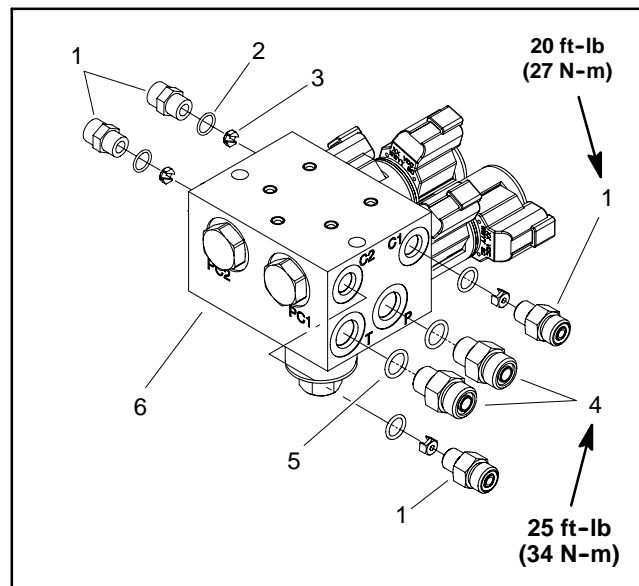

Figure 72
11. If necessary, remove fittings and flow control orifices from control manifold and discard O-rings (Fig. 72).
1. If fittings were removed from control manifold, lubricate and place new O-rings onto fittings. Install fittings into control manifold port openings. Refer to Figure 72 for fitting torque specifications.
2. Position boom lift control manifold to mount plate. Secure manifold to plate with two (2) cap screws and flange nuts.
6. Install cover plate (item 2) and secure to top of lift control manifold with two (2) flange nuts.